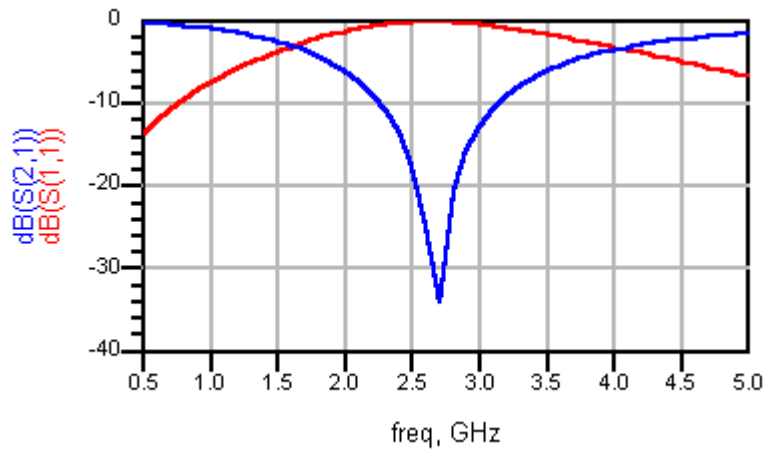

Figure 3. Initial S-parameter results before tuning is performed.
- 3) Open a data display window and create a graph that includes S_{11} and S_{21} in dB format. At this point, the results should resemble those shown in Figure 3.